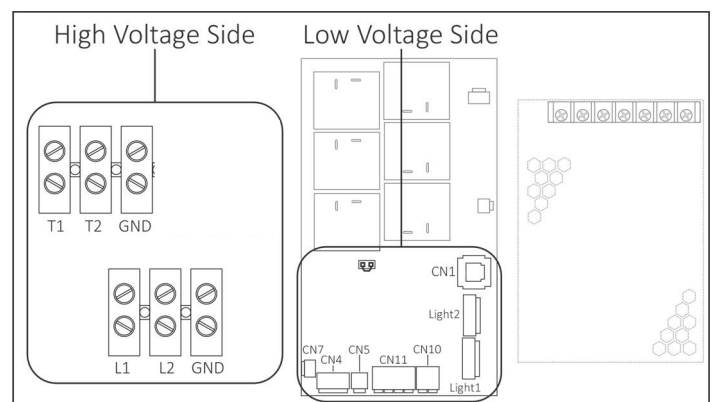

Figure 8. CB Box Interior
23. The sauna room wires and cables are labeled according to the terminals they connect to inside the CB box. See Figure 8.